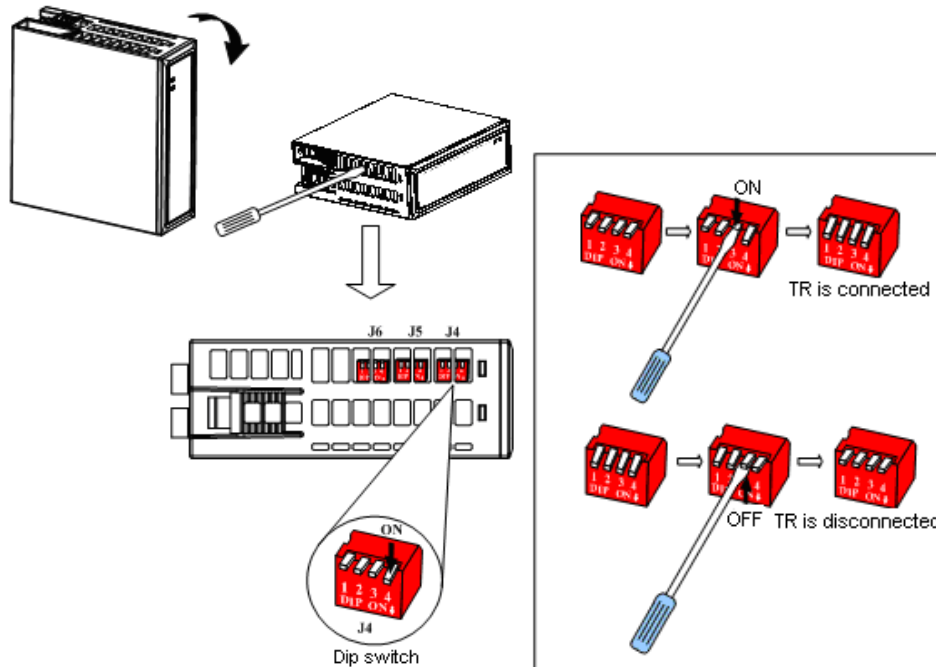

Figure 4.10: DIP switches configuration of LK232
- The dip switches of LK232 are located inside the module, and the default setting is that termination resistors are not connected. To change the switch positions, it is not necessary to disassemble the casing, instead, use a small flathead screw driver to set the dip switches through the heat dissipation holes, as shown in Figure 4.10.